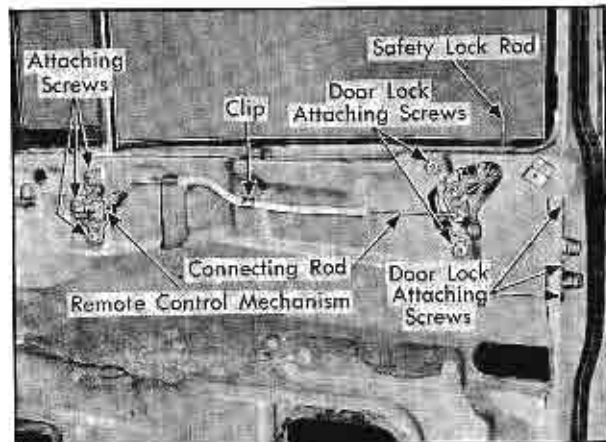

Fig. 3-27 Door Lock and Remote Control Assembly
2. Loosen three remote control assembly attaching screws, Fig. 3-27.
3. Remove three remote control assembly attaching screws, Fig. 3-27, and disengage remote control from connecting rod and connecting rod from door lock.
5. Remove five door lock attaching screws, Fig. 3-27, lower lock to clear glass run channel and remove lock through loading hole.